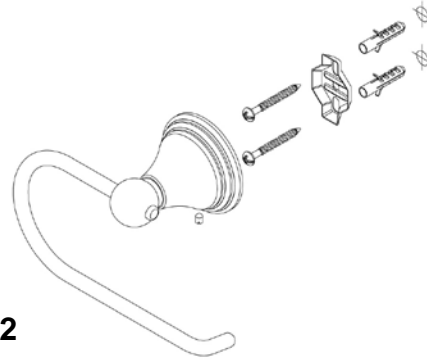

Fig.2
5. Using a small flat head screwdriver loosen the grub screw within the backplate. Place the backplate on the wall bracket and tighten the grub screw as shown in figure 2.
10. Using a small flat head screwdriver loosen the grub screw within the backplate. Place the backplate on the wall bracket and tighten the grub screw as shown in figure 2.